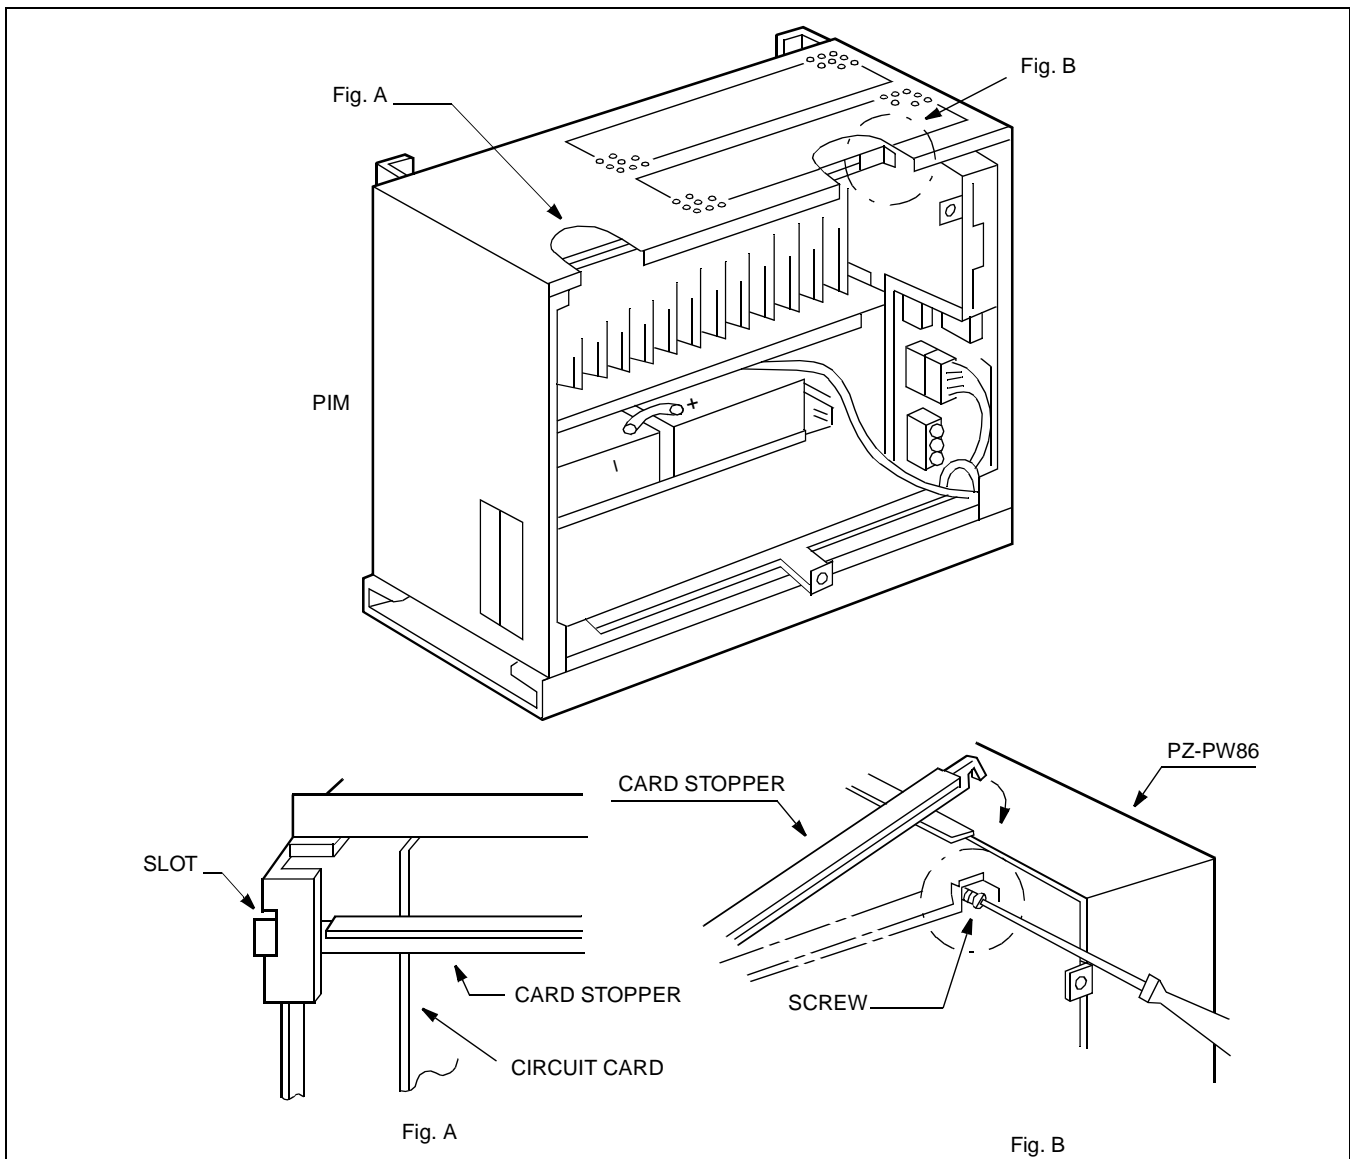

Figure 008-3 Installation of the Card Stopper
- (5) Install the Card Stopper according to the following procedure.
- Insert the left side of the Card Stopper to the slot for the card Stopper as shown in Fig. A of Figure 008-3.
- Loosen the attached screw for the Card Stopper, and hang the right side of the Card Stopper onto the screw. Then, tighten the screw as shown in Fig. B of Figure 008-3.